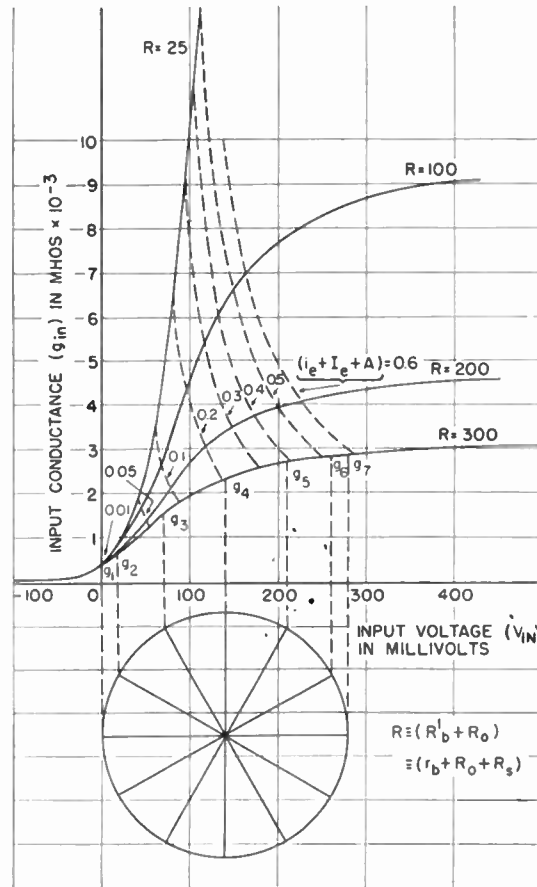

Fig. 5—Calculation of Fourier coefficients of time-varying input conductance caused by local oscillator voltage.
From (10) and (11) for a given value of V_1 , g_{in} is found as a function of V_{in} and this is plotted in Fig. 5 for fixed values of $(R_b' + R_0) \equiv R$. It is noted that V_1 is a constant which is a function of I_e . The effect of V_1 is to shift the curves relative to the abscissa. In Fig. 5, V_1 is arbitrarily taken equal to 118 millivolts. Also shown are loci for $(i_e + I_e + A) = \text{constant}$.
The IF current in the emitter circuit can now be found from Fig. 5 in a manner analogous to that used in the case of diode mixers.^{2,3} Expanding g_{in} into a cosine series of period $2\pi/\omega_0$,
The coefficients G_0, G_1, G_2 , etc. can be evaluated by a 7-point analysis as shown in Fig. 5, where the circle diameter equals the local oscillator peak-to-peak voltage. Projecting 30 degree intervals onto the $R = 300$ -ohm curve, we obtain,
Also from Fig. 5 the dc current which corresponds to the position of the circle on V_{in} axis is obtained by noting value $(i_e + I_e + A)$ at g_1, g_2, g_3 , etc., and taking the average over one cycle. This dc current is I_e since A is very small (see discussion on principle of operation) and can be neglected.